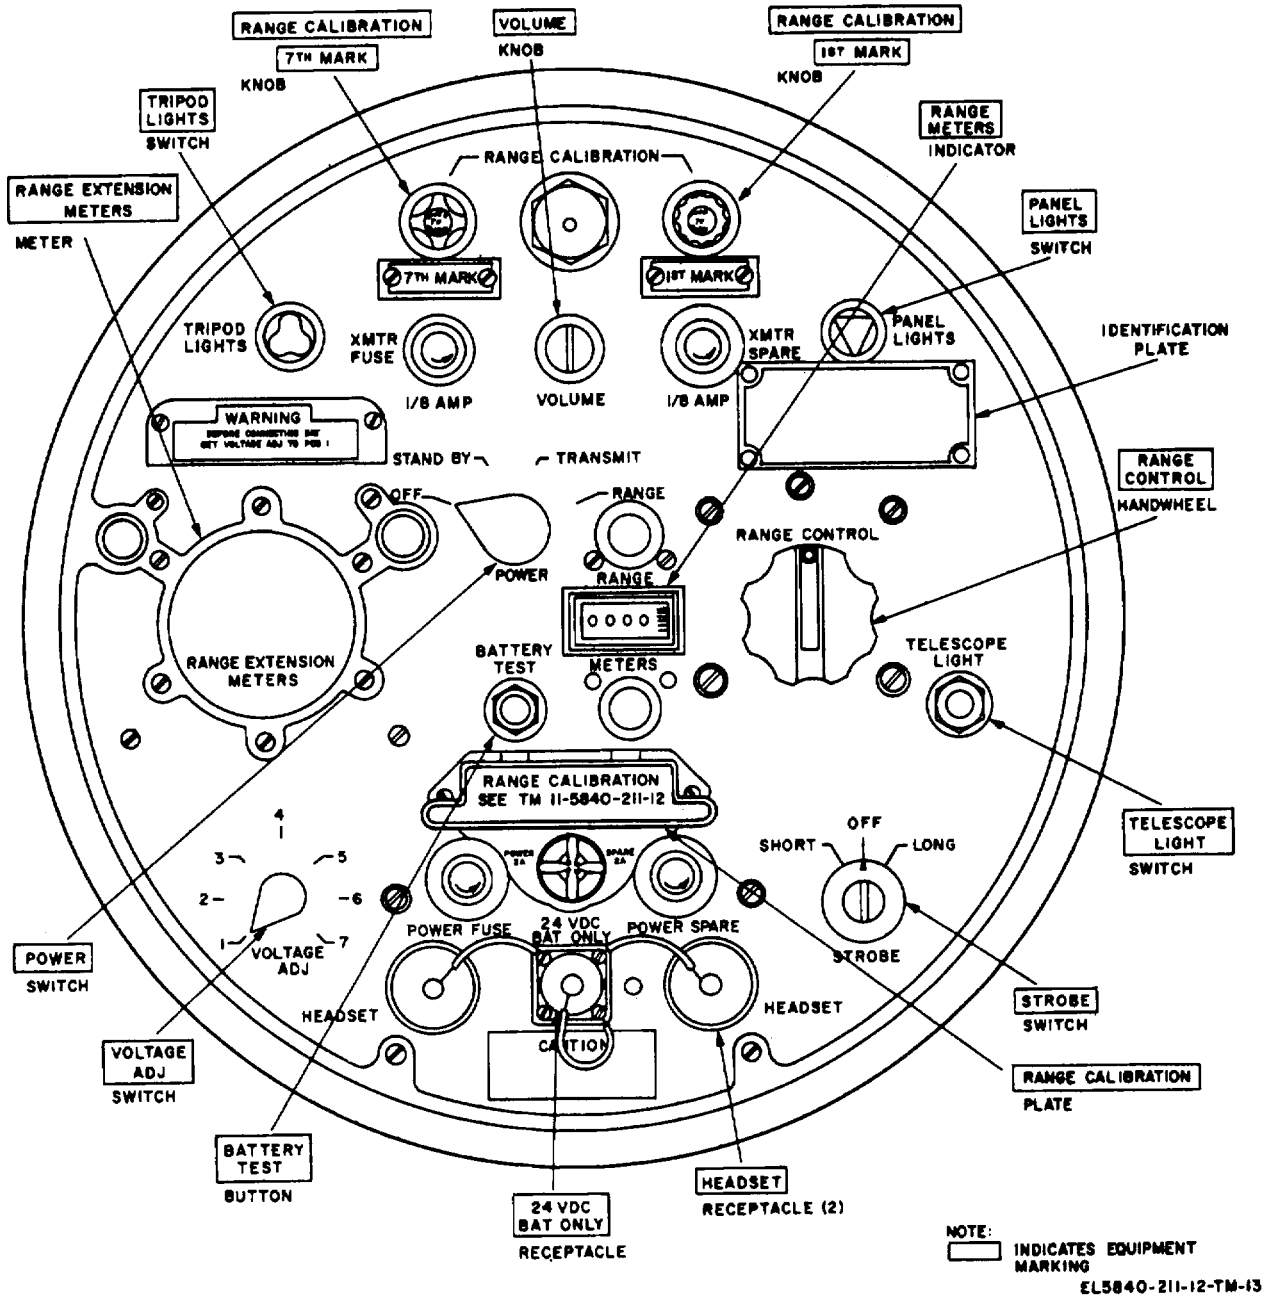

Figure 3-1. Control panel
Connect the power cable between the 24 VDC BATTERY ONLY receptacle on the control panel (fig. 3-1) and the power outlet receptacle on the battery. When the power source is other than a 24-volt battery, make sure that the peak voltage input applied to the radar set does not exceed 24 volts. Damage to the radar set will result if higher voltage is applied. The radar set has a negative (-) input ground; the negative (-) terminal of the 24-volt input source must be connected to the radar set chassis ground or the radar set will not operate.
f. *Headset Connection.* Connect one (or both) of the headsets to the receiver-transmitter by plugging the connector of the headset cable into the HEADSET receptacle on the control panel (fig. 3-1) and twisting the connector clockwise.
3-2. Receiver-Transmitter Controls and Indicators (fig. 3-1)
b. Fuses. Check to see that the XMTR FUSE (fig. 3-1) and the XMTR SPARE fuses are rated at 0.125 ampere. Check to see that the POWER FUSE and the POWER SPARE fuses are rated at 2 amperes (para 4-10).
c. Controls and Instruments. Make sure that there is no physical damage to the controls and instruments on the control panel of the radar set (fig. 3-1).
a. Set the power switch (fig. 3-1) to TRANSMIT. Set the STROBE switch to OFF. Aim the receiver-transmitter at a moving target 200 meters to 500 meters away from the radar (example: man waving his helmet or rotating corner reflector). Adjust range, and move the R/I unit in azimuth and elevation for maximum sound in the earphones.
a. Set the POWER switch (fig. 3-1) to TRANSMIT.
The value specified on the RANGE CALIBRATION plate (fig. 3-1) will vary for each individual radar set.
- a. Set the POWER switch (fig. 3-1) to RANGE.
3-11. Installation Performance Check (fig. 3-1)
3-12. Preliminary Control Settings (fig. 3-1)
c. Set the RANGE CONTROL handwheel (fig. 3-1) so that the RANGE METERS indicator is set to the minimum distance at which a target can be detected (approximately 40 meters).
e. When a target is detected, the range of the target can be determined in several ways, depending on the type of strobe (OFF, SHORT, or LONG) used when detection is made. With the STROBE switch set to OFF, LONG, or SHORT ((1) and (2) below), a maximum loudness of the audio signal in the headset will provide the most accurate range information. Note that the only indication of fixed targets is indicated by a backward deflection on the RANGE EXTENSION METERS meter.
(1) With the STROBE switch set to OFF (normal mode) and with the receiver-transmitter and RANGE CONTROL handwheel positioned to produce a maximum loudness of the audio signal in the headset from a detected target, the indication on the RANGE METERS indicator will be the distance between the target and the radar set in meters.
(2) If the STROBE switch is set to LONG or SHORT, the approximate distance to the target will be the RANGE METERS indicator reading plus the indication on the RANGE EXTENSION METERS meter. As the meter pointer continues its 500-meter sweep, approximate the position of the target within the sweep by noting the position of the pointer when the detected sound is heard.